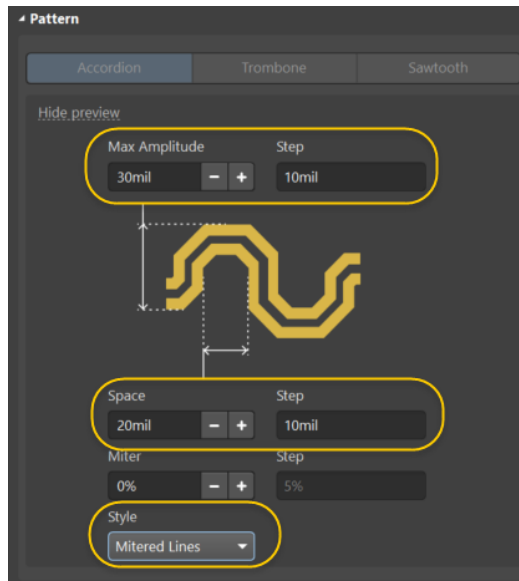

Figure 7. Differential Pair Tuning properties
40. In the *Pattern* section, set the values for the accordions, as shown in Figure 7 below: